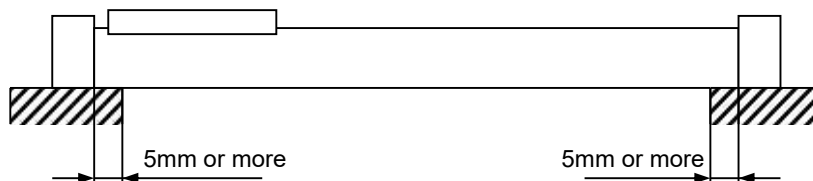

Fig. 4
- At least 5mm of both ends of the cylinder tube have to contact with the attachment point. (See Fig. 4)